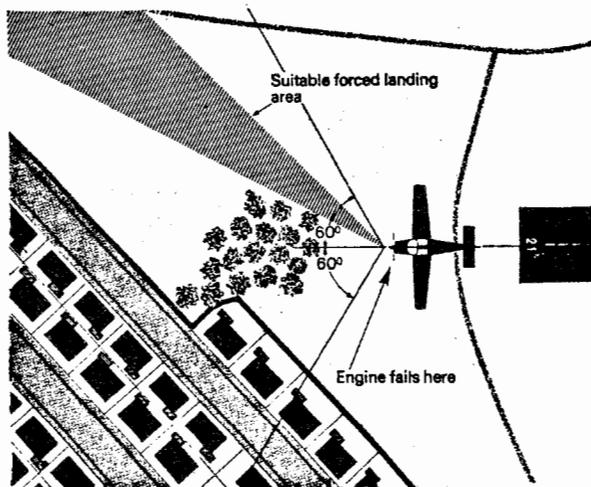

Figure 2—If engine fails at low altitude, it's reasonable to search for a suitable landing site up to 60° on either side of aircraft heading.
One of the reasons why some folks get uptight when they are told to land ahead if the engine quits after takeoff is because they feel denied the right to exercise their judgment. I would be the first to agree. To demand that the landing must be *straight* ahead would be pointless and potentially dangerous. Ahead may lie the biggest and densest housing development of all time. 10° to one side could be an open field the size of JFK. Figure 2 illustrates the options available if you scan the relatively wide area contained within a 60° arc left and right of the takeoff path. There is no reason why the aircraft should not be maneuvered within those relatively far-ranging limits.
- 2) Look through an arc of about 60° left and right of aircraft heading and select the best available landing area (see Figure 2);